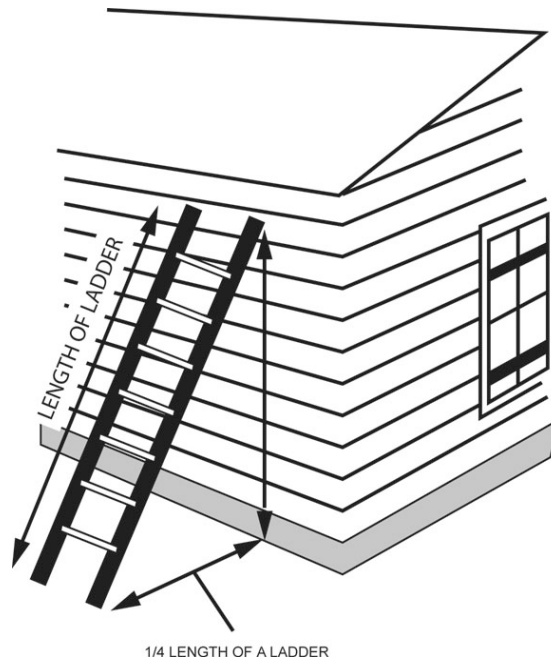

Figure 4-74. Placing a short ladder.
- When you use a ladder against the side of a building, the bottom of the ladder must be  $\frac{1}{4}$  of the ladder's total length away from the building, as shown in figure 4-74.